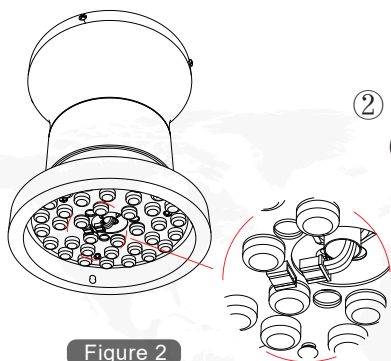

Figure 2
- ② Pull out the socket of the light strip. (Figure 2)
2. For the Wood Ceiling: Mark the location for the ceiling fan first, secure the mounting bracket to the building structure with four screws provided. And Add spacer to each screw. (Fig.2)
(Fig. 2)